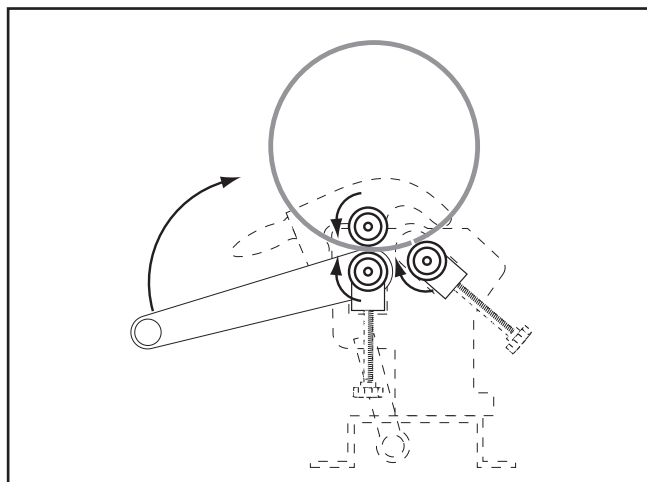

Figure 26. Finishing the cylinder.
6. Continue to process the workpiece until the cylinder is formed, as shown in **Figure 26**.